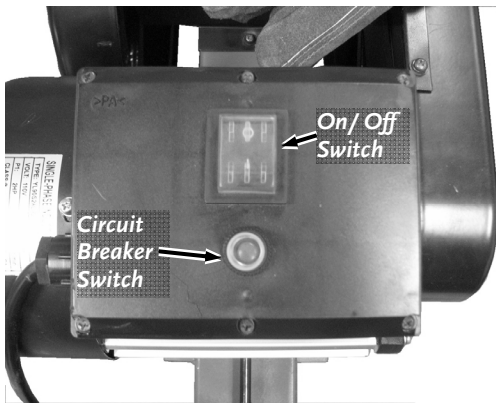

Figure 5
3. Push the red Toggle Switch to the on position (**Figure 5**).
1. Push the red Toggle Switch to the off position to shut the Motor off (**Figure 5**).
1. Push the Circuit Breaker Switch in to reset (**Figure 5**).